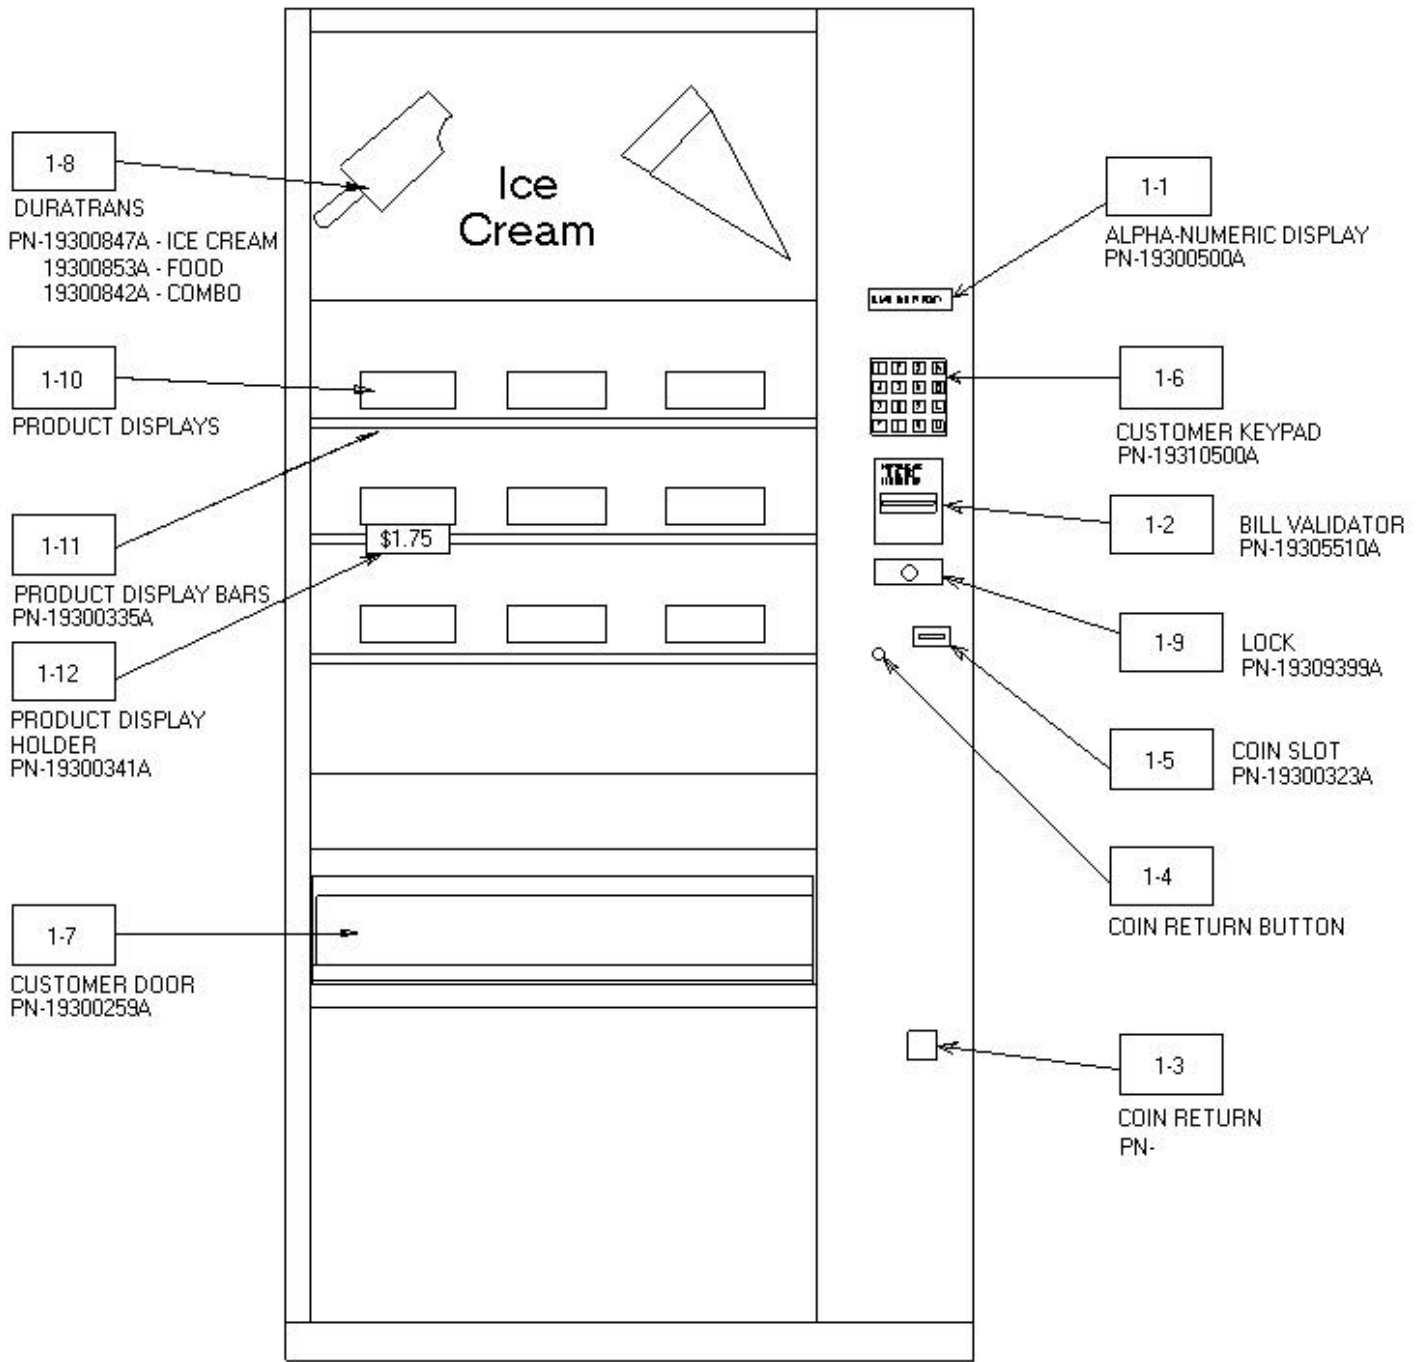

Figure 1
6. Remove (2) freezer door retaining brackets, (on top of freezer lid), with a 3/8" nut driver. Store the brackets and hardware for any transport of the machine.
7. Remove (2) robot retaining brackets from either side of the carriage, by unscrewing the 1/4-20 bolts. Store the brackets and hardware.
8. Remove (2) red picker head clamps (and/or bracket) from the freezer front plate. Store the brackets and hardware.
9. Check the path of the cable in the front of the robot to ensure the cable rests in the slot of each of the pulleys in the system. (See Fig. 1)